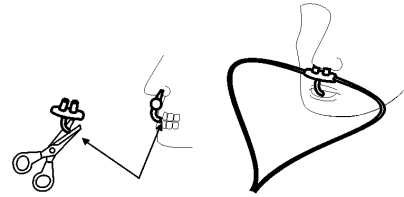

Figure 7
- a. Place the cannula onto the patient as shown in Figure 7.
- b. Observe the length of the oral cannula tip. It should extend down past the teeth and be positioned in the mouth opening (see Figure 7).